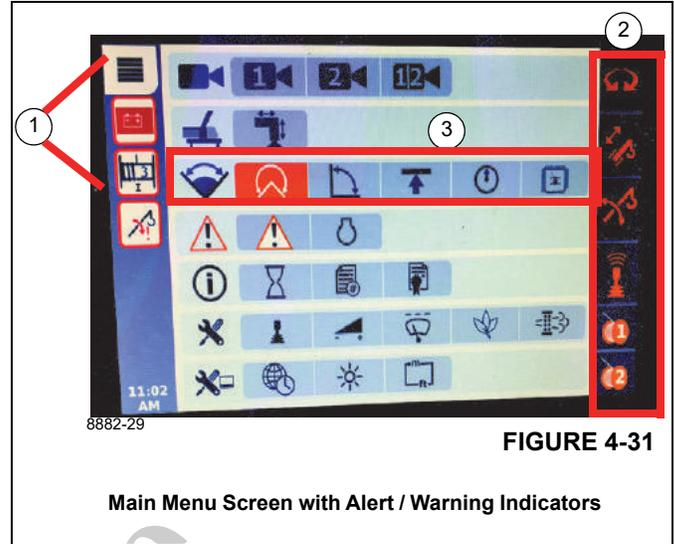

FIGURE 4-31 Main Menu Screen with Alert / Warning Indicators
2. Using the Jog Dial (5), (Figure 4-22), go to the ODM Main Menu Screen (Figure 4-31). Then choose the Working Range Limiter (WRL) Group Menu Icon (1), (Figure 4-30) by using the Arrow keys (4), (Figure 4-21) or the Jog Dial (5), (Figure 4-22).